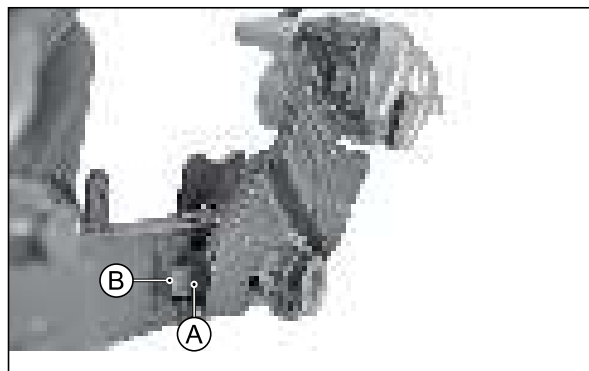

Fig. 6.102
- Make sure that the slot (A) in the bracket complete caliper assembly fits over the stopper (B) on the swing arm assembly. (Fig. 6.102)